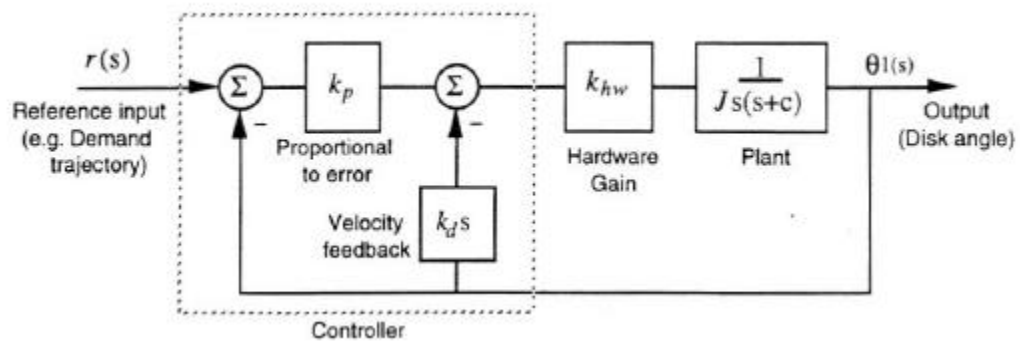

Figure 2 Controller Configuration for Plant Identification
The servo system with a PD controller is schematically shown in Figure 2 and has the output/input transfer function:
7. Measure the amplitude and time to peak of the first one or two consecutive cycles as shown in Figure 2. Measure the reduction from the initial cycle amplitude X_0 to the last cycle amplitude X_n for the n cycles. For more precise measurements you may “zoom in” to the area of interest in the plot via **Axis Scaling** under **Plotting**.
From Figure 2, determine an acceptable continuous-time model. Assume the system has no zeros.